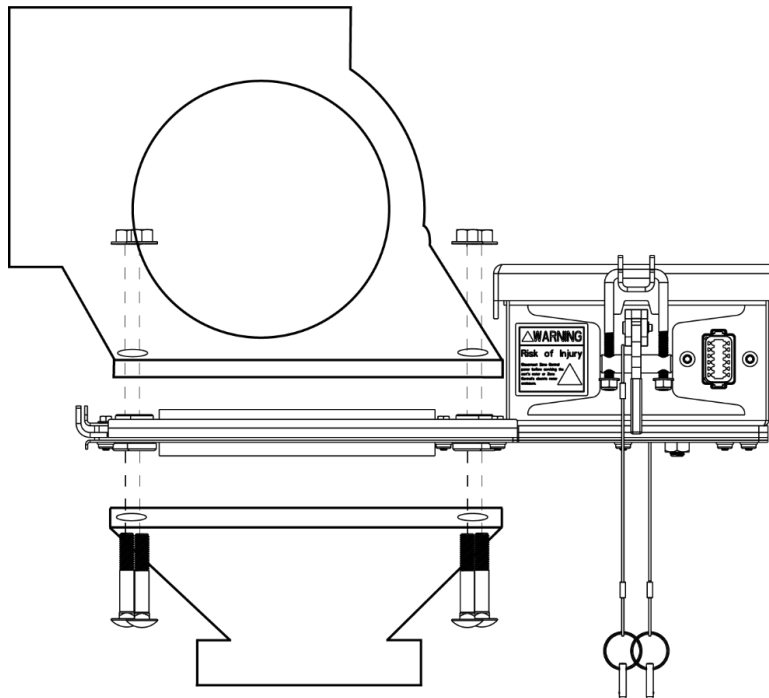

Figure 5: Installing the Engage Zone Control unit
- a. Align the Engage Zone Control unit plate with the 6 bolt holes under the meter housing, as shown in Figure 5.
- a. Carefully slide the Engage® Zone Control unit plate between the meter housing and manifold, as shown in Figure 5. Align the plate with the 6 bolt holes under the meter housing.